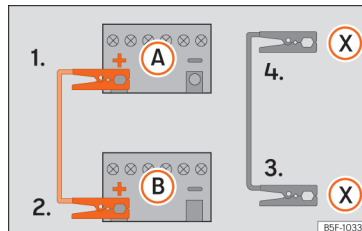

Fig. 45 Diagram of connections for vehicles with Start Stop system
- 4b. *In vehicles with a Start-stop system:* connect one end of the black jump lead (X) to a suitable ground terminal, to a solid piece of metal in the engine block, or to the engine block itself » Fig. 45. »
- Connect the other end of the *black* jump lead (X) to a solid metal component bolted to the engine block or to the engine block itself of the vehicle with the flat battery. Do not connect it to a point near the battery (A).